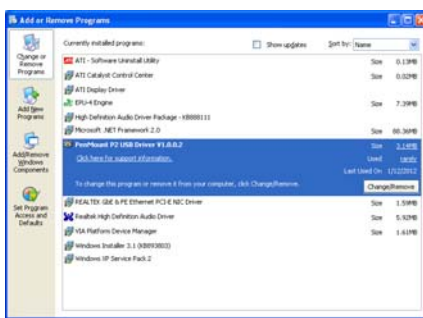

Fig.10
- Exit **PenMount Monitor (PM)** in the notification area.
- Go to **Control Panel**. Click **"Add/Remove program"**. Select **"PenMount USB Driver V X.X.X.X"**. (or **"PenMount RS-232 Driver V X.X.X.X"**). Click **"Change/Remove"** button. (Fig.10)